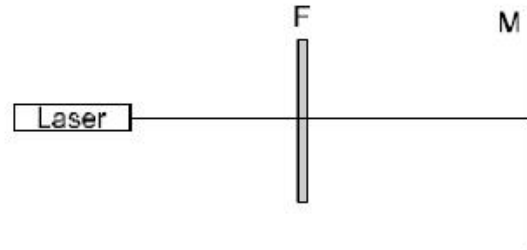

Fig. 10 Demonstration of light absorption with colour filters (F =colour filter, M = ground screen)
- Set up the experiment as shown in Figure 10.